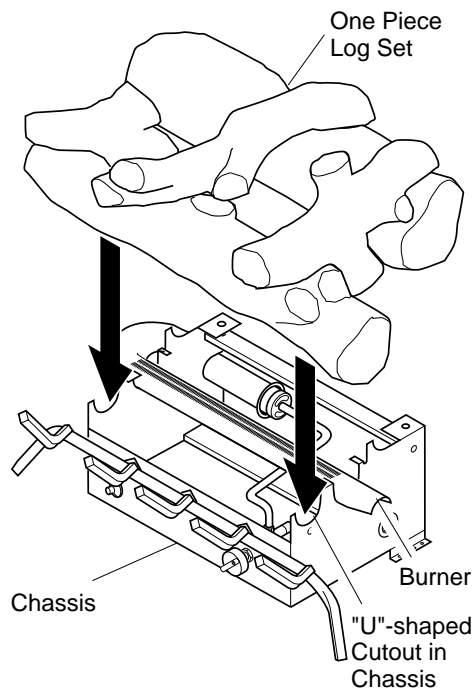

Figure 17 - Installing Heat Majic™ One-Piece Log Set
1. Place one-piece log set on grate to fit as illustrated in Figure 17. Make sure bottom of front log is in front of "U"-shaped cutout in center of chassis (see Figure 17).